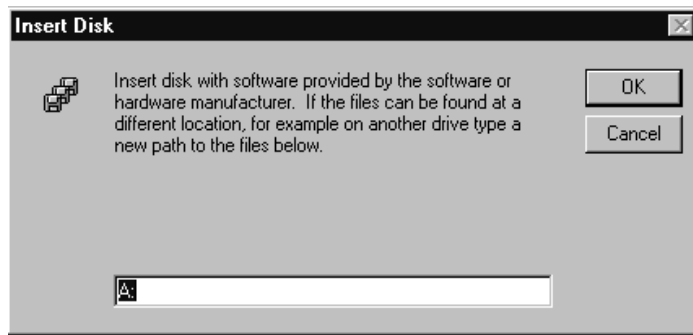

Figure 5-14. Insert Disk
4. Click the **H**ave Disk button. The Insert Disk dialog box will display (Figure 5-14).